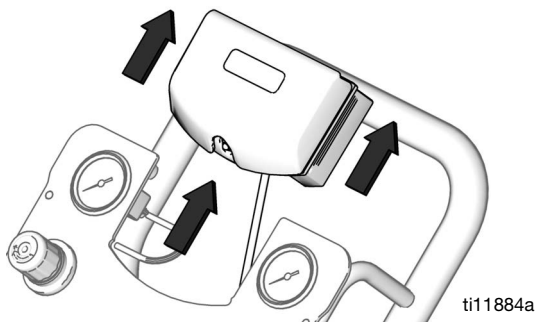

FIG. 7. Remove DataTrak
3. Remove DataTrak module from bracket. See FIG. 7. Take module and attached cable to a non-hazardous location.